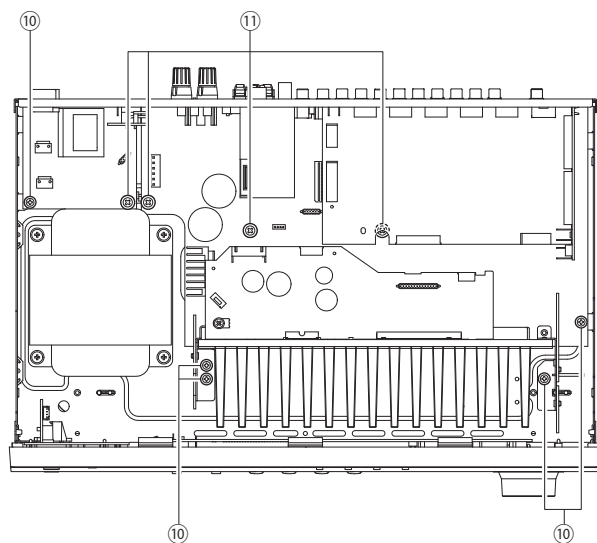

Fig. 5
- Remove 5 screws (10) and 4 screws (11). (Fig. 5)